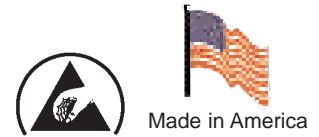

Figure 1. 94020 Bench Top Ionizer
I. Set the fan speed switch on the rear of the unit to the LOW, MED, or HI position (See Figure 1). Higher airflow will result in faster neutralization rates.
The SPI Bench Top Ionizer is an auto-balancing unit. However, tuning or manual adjustment can be accomplished by inserting a small screwdriver or trimmer adjustment tool into the balance adjustment hole located at the rear of the unit (See Figure 1). To increase the output in a positive direction, turn the potentiometer clockwise. To increase the output in a negative direction, turn the potentiometer counter-clockwise.